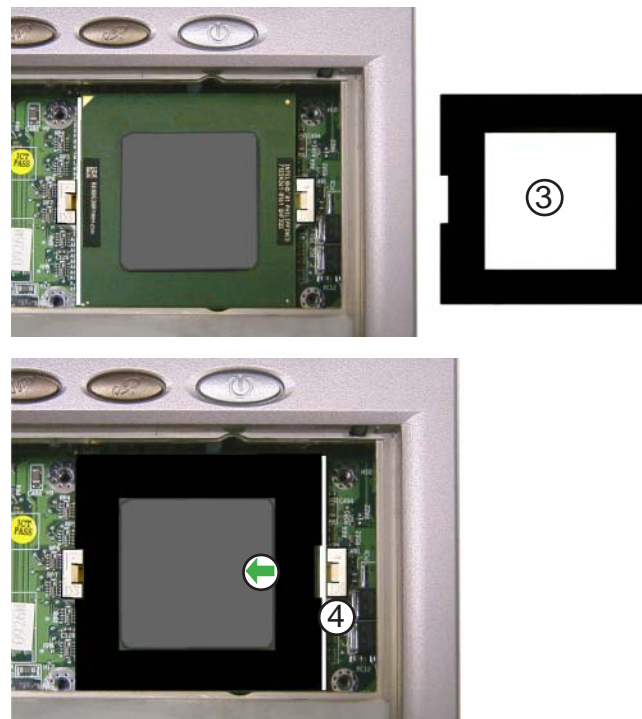

figure 2-10b
2. Place the CPU tool over the CPU (figure 2-10b).
3. Place a screwdriver in the OPEN slot of the CPU socket and move it to the left (figure 2-10b).